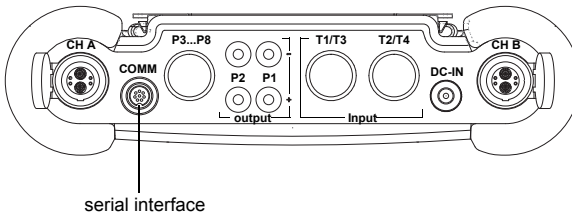

Fig. 6.14: Connections of the transmitter FLUXUS F601
- Connect the RS232 cable to the transmitter (see Fig. 6.14) and to the serial interface of the PC.